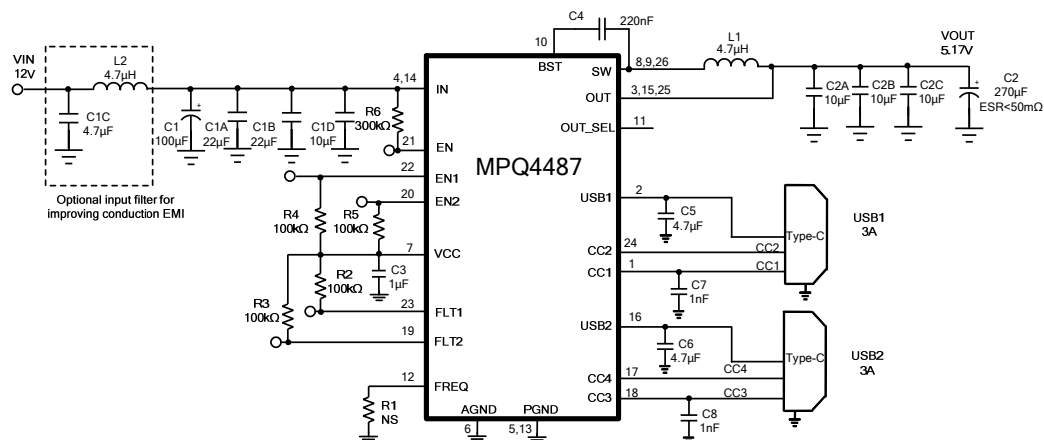

Figure 13: Dual USB Type-C 5V/3A DFP Ports ⁽¹¹⁾
- ¹⁰⁾ The recommended layout is based on the Typical Application Circuits in Figure 13 to Figure 15.